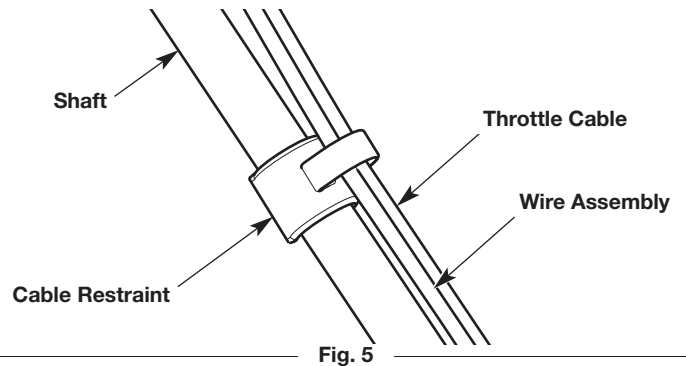

Fig. 5
2. Insert the throttle cable and wire assembly into the cable restraints on the upper and lower shafts (Fig. 5).